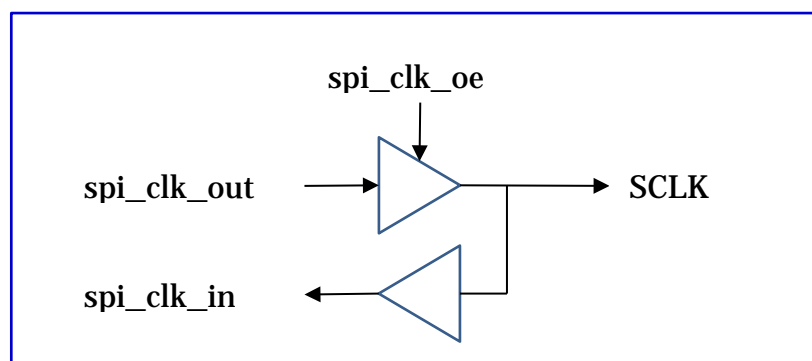

Figure 10. SCLK I/O Pad
- spi_clk_in, spi_clk_out and spi_clk_oe must be connected to the I/O pad of SCLK as shown in Figure 10;